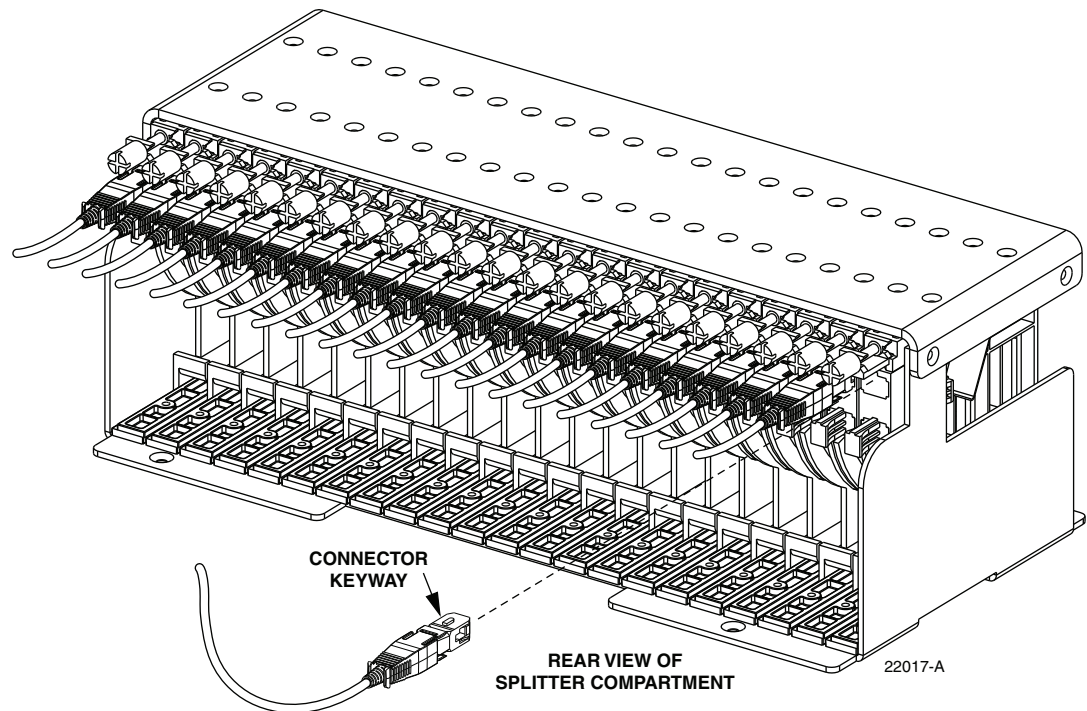

Figure 63. Feeder Cable Connector
4. Remove the corresponding feeder cable connector(s) from the rear of the splitter compartment as shown in Figure 63.
3. Remove the feeder cable connector(s) from the rear of the splitter compartment (see Figure 63).